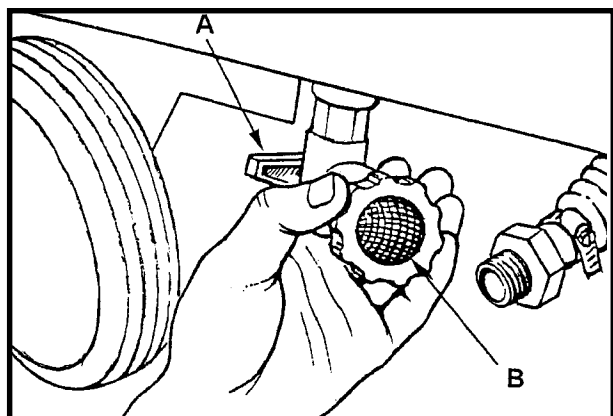

Figure 12
5. Turn solution valve "OFF". See figure 12 (A).
6. Locate the solution filter screen. It is located on the back of the solution valve. See figure 12 (B).